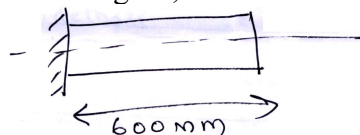

Fig.Q10(b) (10 Marks)
b. Determine the natural frequency of longitudinal vibration of the bar as shown in Fig.Q10(b). Take  $E = 200 \text{ GPa}$ ,  $\rho = 7840 \text{ kg/m}^3$ ,  $A = 240 \text{ mm}^2$ .